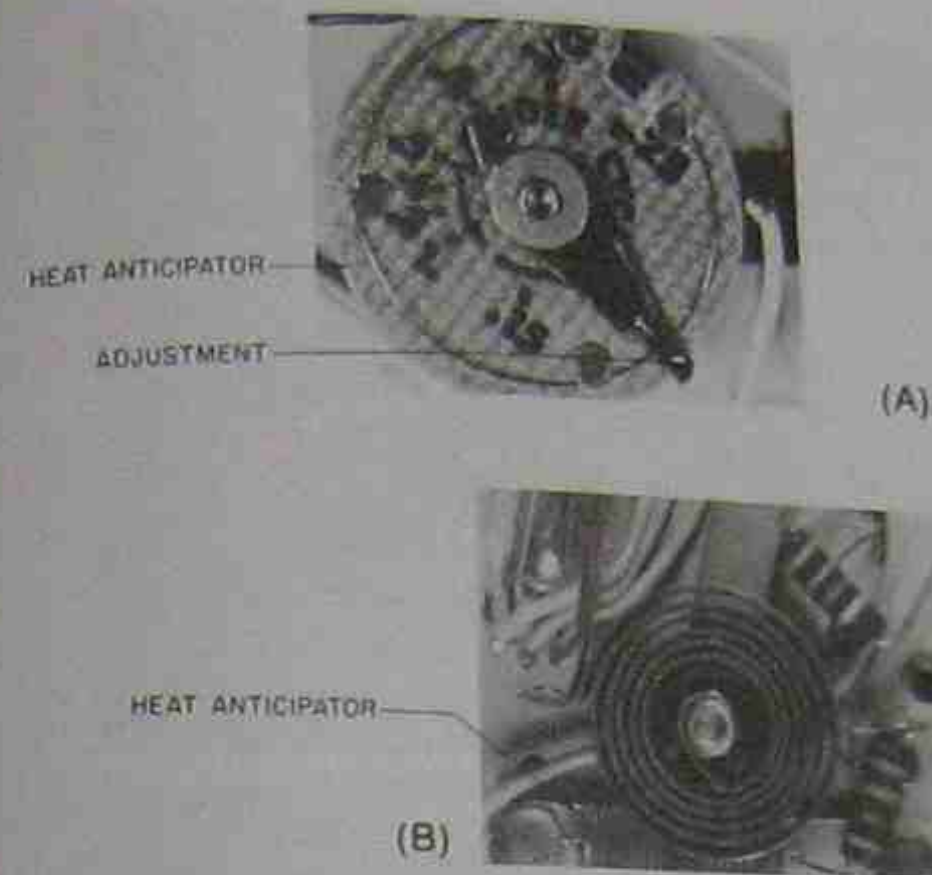

Figure 13-5. Heat anticipators as they appear in actual thermostats. Photos by Bill Johnson
**Heat Anticipator.** The *heat anticipator* is a small resistor, usually adjustable, used to cut off the heating equipment prematurely, Figure 13-5. For a moment, imagine that an oil or a gas furnace has heated a home to just the right cutoff point. The furnace itself could weigh several hundred pounds and be hot from running a long time. When the fire is stopped in the furnace, the furnace still contains a great amount of heat. The fan is allowed to run to dissipate this heat. The heat left in the furnace is enough to drive the house temperature past the comfort point.